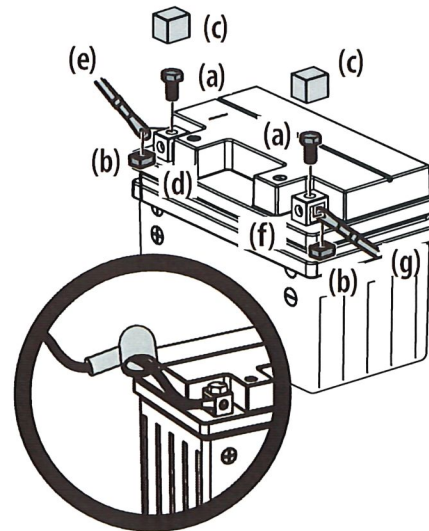

Figure 12
- Remove the factory installed hex screws (a) and square nuts (b) located either on the end of the wiring harness or in the bag with this manual. Retain the hardware for later instructions. See Figure 12.
- Remove the plastic cover (c), if present, from the positive battery terminal (d) and attach the red cable (e) to the positive battery terminal (d) with one of the hex screws (a) and square nuts (b), from Step 1. Use a Philips screw driver. See Figure 12.
- Position the red rubber boot over the positive battery terminal to help protect it from corrosion. See inset in Figure 12.
- Remove the plastic cover (c), if present, from the negative battery terminal (f) and attach the black cable (g) to the negative battery terminal (f) with the remaining hex screw (a) and square nut (b). See Figure 12.